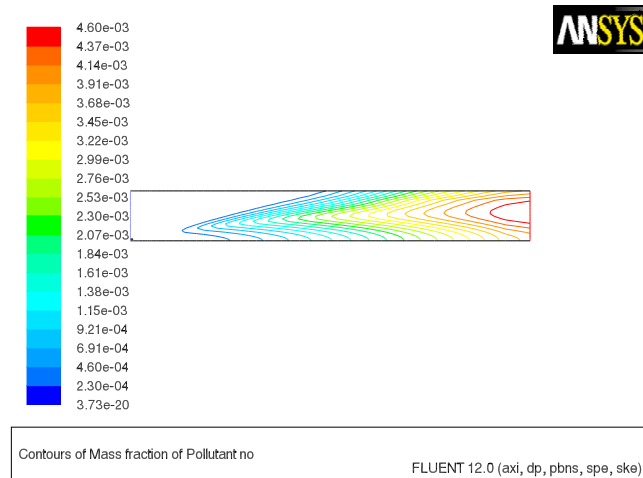

Figure 14.13: Contours of NO Mass Fraction—Thermal NO_x Formation
11. Review the thermal NO_x solution by viewing contours of NO mass fraction (Figure 14.13).